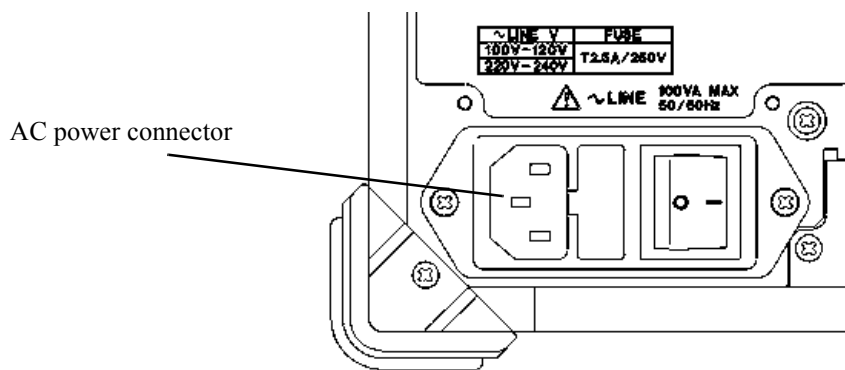

Figure 3-2 Connecting the Power Cable
2. Connect the AC power connector on the rear panel of this instrument to a three-pin power outlet that has a protected ground terminal by using the included power cable (See Figure 3-2).